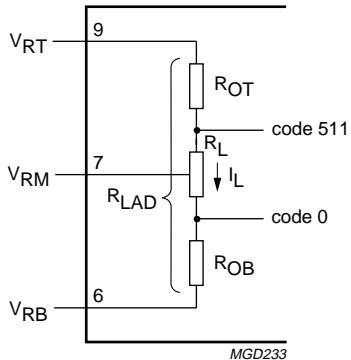

Fig.3 Explanation of note 3.
3. In order to ensure the optimum linearity performance of such converter architecture the lower and upper extremities of the converter reference resistor ladder (corresponding to output codes 0 and 511 respectively) are connected to pins V_{RB} and V_{RT} via offset resistors R_{OB} and R_{OT} as shown in Fig.3.